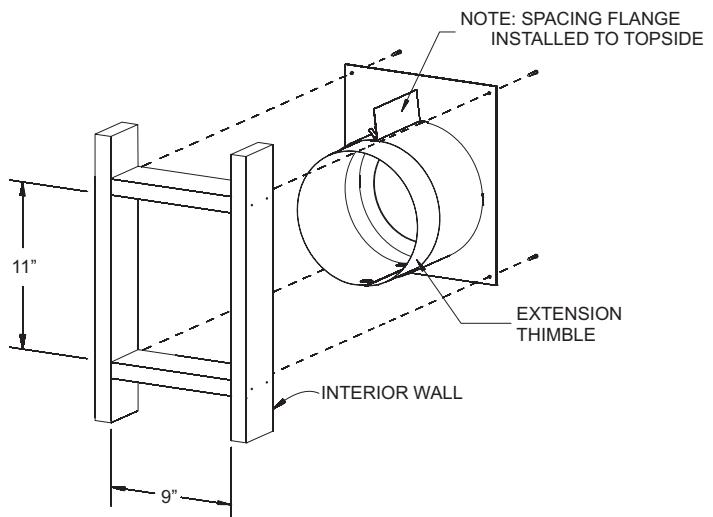

Figure 54
2. Cut hole in wall for wall thimble/firestop assembly into your combustible wall. **See Figure 54.** Note: On brick or block exterior wall a 7" (178mm) diameter hole needs to be cut. Measure the total wall thickness to determine whether or not the extension thimble is to be used. If the combustible wall depth is over 5 3/8" (137mm), then the extension thimble should be used. **See Figure 54.**
3. Install the wall thimble assembly through the framed opening so the firestop plate is on the interior wall. **See Figure 54.** Telescope section should extend all the way through the exterior wall. Attach with four 10 x 1" screws.
6. With the vinyl siding kit installed to wall (if necessary), insert the 6 5/8" (168mm) diameter tube with outside mounting plate attached through hole in wall. Connect to collar on fireplace or rigid vent system. Measure between wall or vent cap extension and outside mounting plate. See **Figures 54 and 55.**